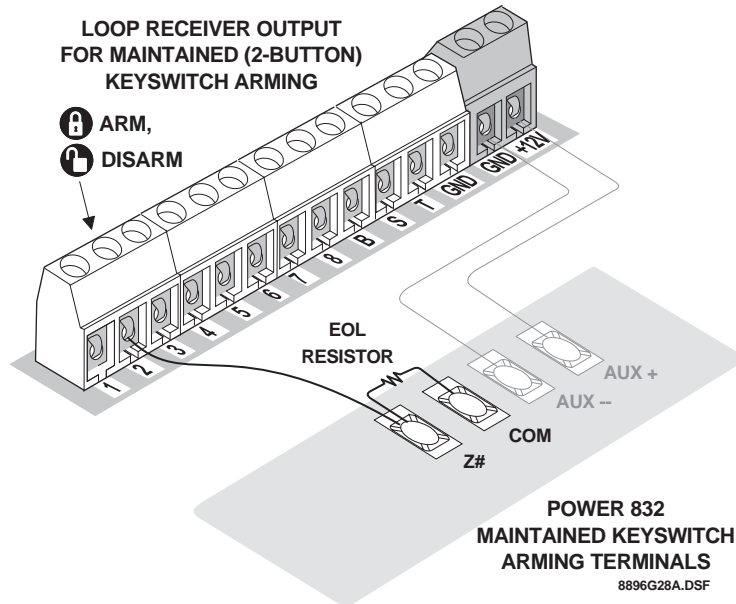

Figure 4. Learn the Arm button into the receiver, program zone 2 N/O, then wire the receiver to the panel as shown.
2. Connect the button's zone output (terminal 2) to any one of the panel's zones that you have programmed for maintained keyswitching as shown in Figure 4.